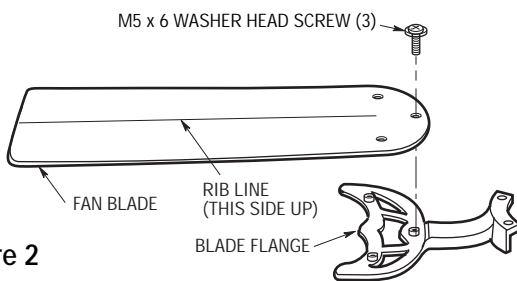

Figure 2
IMPORTANT: THE SIDE OF THE FAN BLADE HAVING THE RIB LINE MUST BE FACING UPWARDS AS SHOWN IN FIGURE 2.
- 6. Mount blade flanges to fan blades using three M5 x 6 washer head screws per blade (Figure 2).